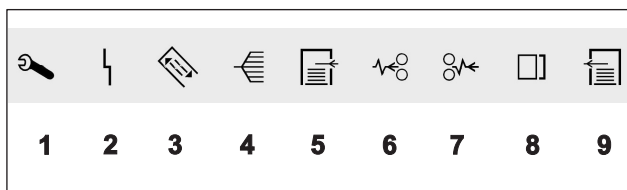

Fig. 28 Information displays
- Service display (Fig. 28/1)
- General malfunction (Fig. 28/2)
- Printing plate change (Fig. 28/3)
- Peripheral equipment (Fig. 28/4)
- Delivery (Fig. 28/5)
- Paper jam, delivery (Fig. 28/6)
- Paper jam, feeder (Fig. 28/7)
- Double sheet (Fig. 28/8)
- Feeder (Fig. 28/9)